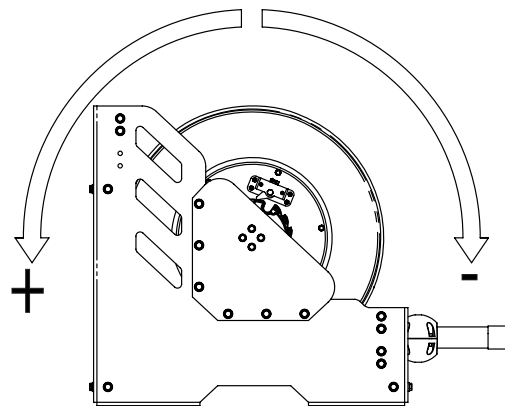

Fig. 6
3. Once the hose is completely wound around the spool (the power springs still will be with no tension), apply the pretension to the power springs by turning the spool the number or turns stated in the table depending on the hose length (see table), turning in positively direction as shown in (Fig. 6). Do not apply more tension than stated, as the power springs could be damaged.
6. Apply the pre-tension to the power springs by turning the spool towards positive direction, the number of turns indicated in (Fig. 6), depending on the hose length. Do not apply more tension than stated, as the power spring could be damaged.